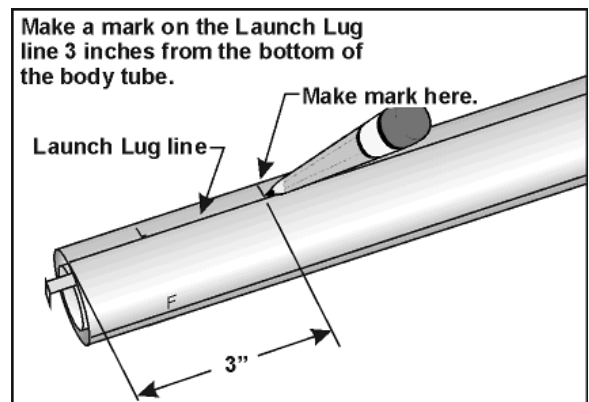

Figure 23
23. Make a mark on the body tube, on the Launch Lug Line, 3" from the bottom of the tube as shown in **Figure 23**.